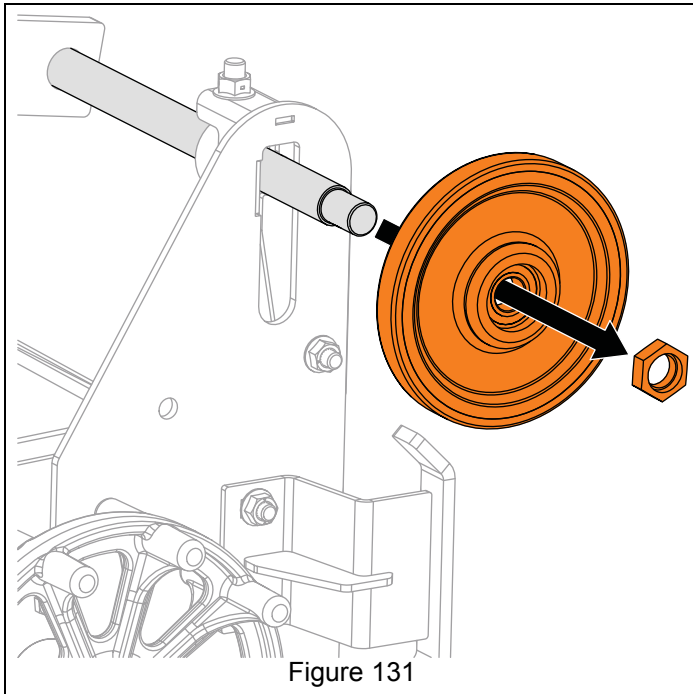

Figure 131
5. Remove hex nut securing bogie wheel to track axle and remove bogie wheel. See Figure 131.